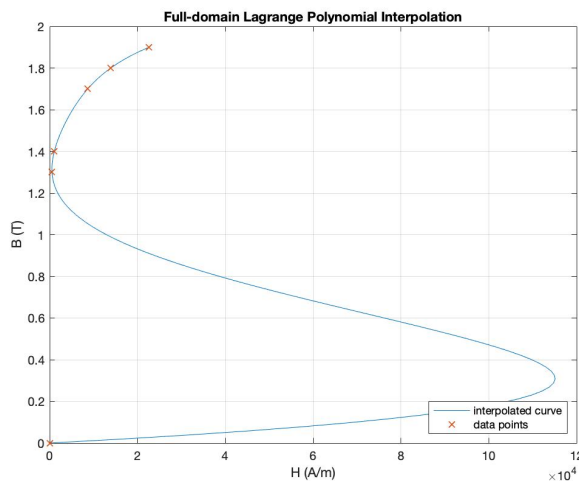

Figure 2 - Full domain Lagrange polynomial interpolation for the six points at $B = 0, 1.3, 1.4, 1.7, 1.8, 1.9$
- (b) Now, the 6 points at $B = 0, 1.3, 1.4, 1.7, 1.8, 1.9$ were used in the full-domain Lagrange polynomial interpolation. The interpolation is shown in Figure 2. Clearly, the result is *not* plausible (not a plausible B - H curve).